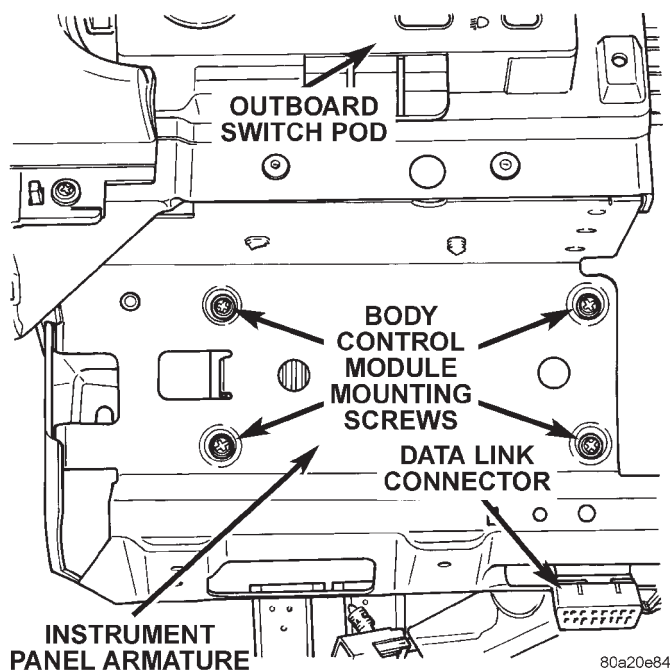

Fig. 11 Body Control Module Remove/Install
- (1) Remove the knee blocker/steering column cover as described in this group.
- (2) Remove the four screws below the outboard switch pod that secure the Body Control Module (BCM) to the instrument panel armature (Fig. 11).